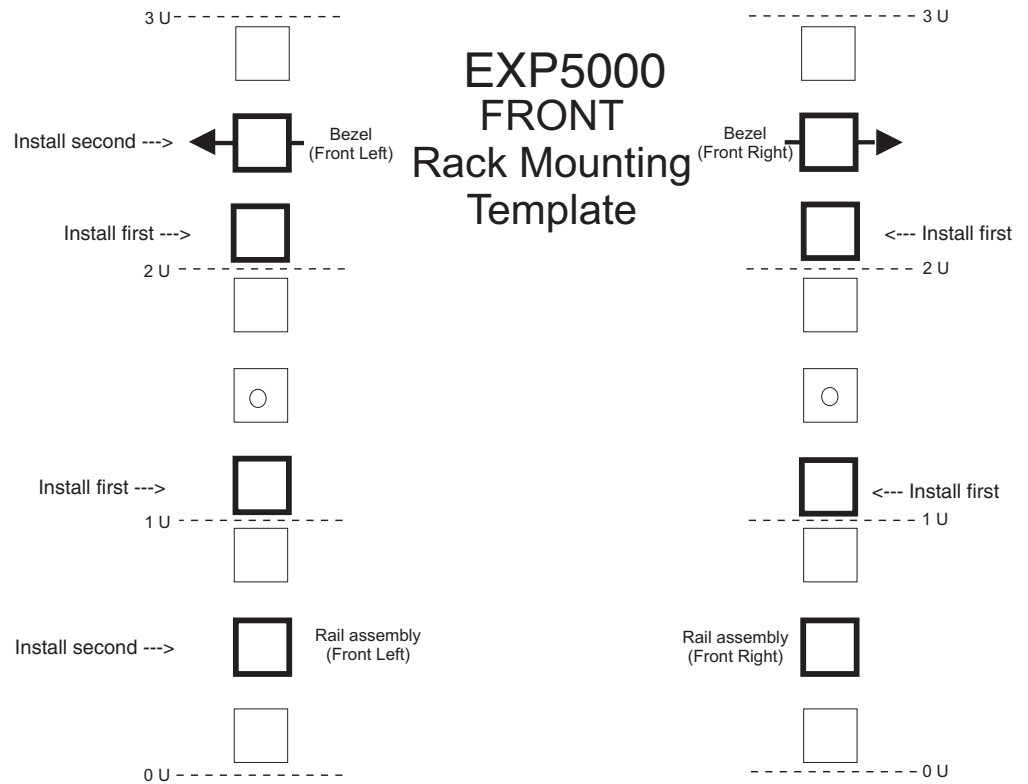
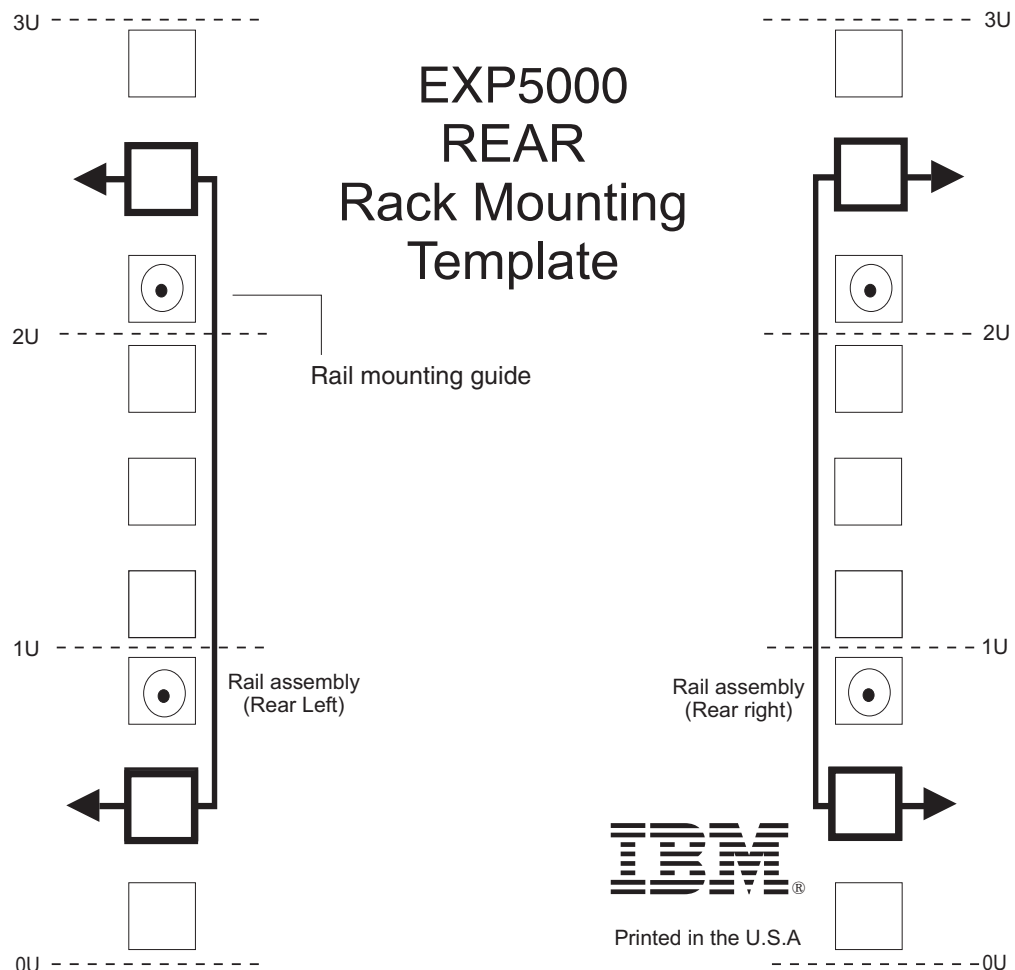

Figure 9. Front rack mounting template
Figure 10. Rear rack mounting template
Use the following templates (Figure 9 on page 25 and Figure 10 on page 26) to identify the proper locations for inserting M5 screws when mounting the support rails and EXP5000 to a rack. The locations for the M5 screws are highlighted in the templates.
**Attention:** Use the rack mounting template provided in Figure 9 on page 25 and Figure 10 on page 26 to locate the proper rack mounting holes for installing the support rails into the rack.
6. Hold the back of the rail against the inside of the rack-mounting flange. Make sure the rail mounting guide pins are in the correct holes. See Figure 10 on page 26 for an illustration.
**Note:** Be sure to install the screws labeled *install first* in Figure 9 on page 25.